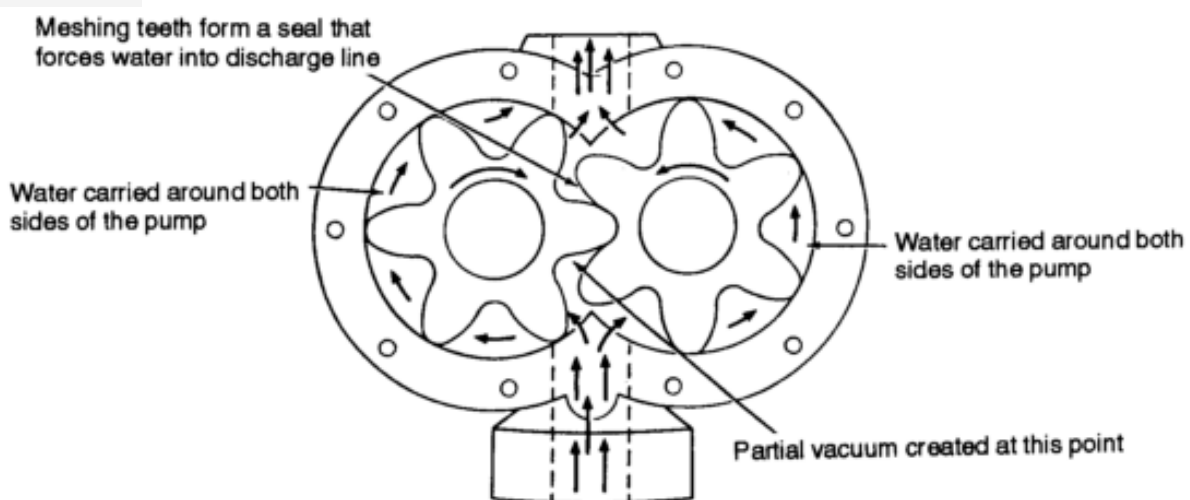

Figure 4-2. Rotary pump
b. *Rotary Pump.* These pumps use a system of rotating gears (Figure 4-2) to create a suction at the inlet and force a water stream out of the discharge. The gears' teeth move away from each other at the inlet port. This action causes a partial vacuum and the water in the suction pipe rises. In the pump, the water is carried between the gear teeth and around both sides of the pump case. At the outlet, the teeth moving together and meshing causes a positive pressure that forces the water into the discharge line.